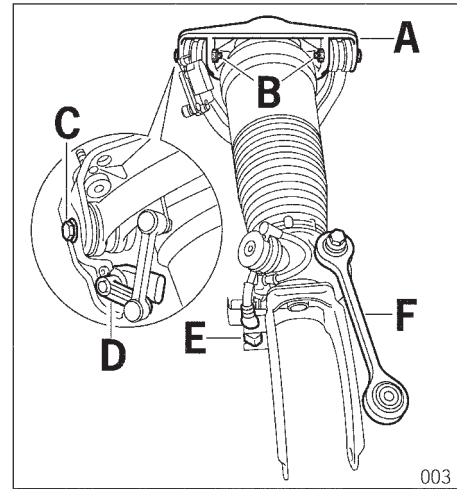

Figure 3
7.2.2 Remove upper trailing arm, Figure 3, item A. To do this, remove fastening nuts, Figure 3, item B and locking screws, Figure 3, item C.
7.2.3 Fit trailing arm with level sensor, Figure 3, item D to new spring strut using new screws (N 102 902 04) and nuts (N 102 861 02).
7.2.4 Remove fastening screw and lock nut from suspension/stabilizer (Figure 3, Item F) and install with new screw (N 105 760 01) and nut (N 104 029 01) on new spring strut.
7.2.5 Unscrew nut from lateral acceleration sensor (Figure 3, Item E) and fasten lateral acceleration sensor with screw (N 904 407 02) and lock nut (N 023 00 28) to new spring strut.
7.5 Tighten lock nut from suspension/stabilizer (Figure 3, Item F).
8.3.3 Install brake line to brake caliper and tighten brake line to brake hose (Figure 3, Item A and B).